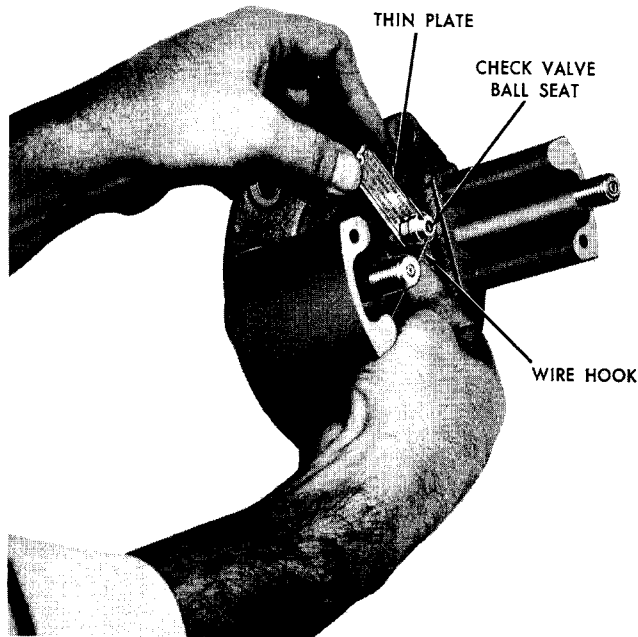

Figure 15. Removing trip piston assembly (a)
- A. Using a wire hook, raise check valve ball seat to expose spring. Insert a thin plate through the spring so spring tension on pin in ball seat will be released. See Figure 15.